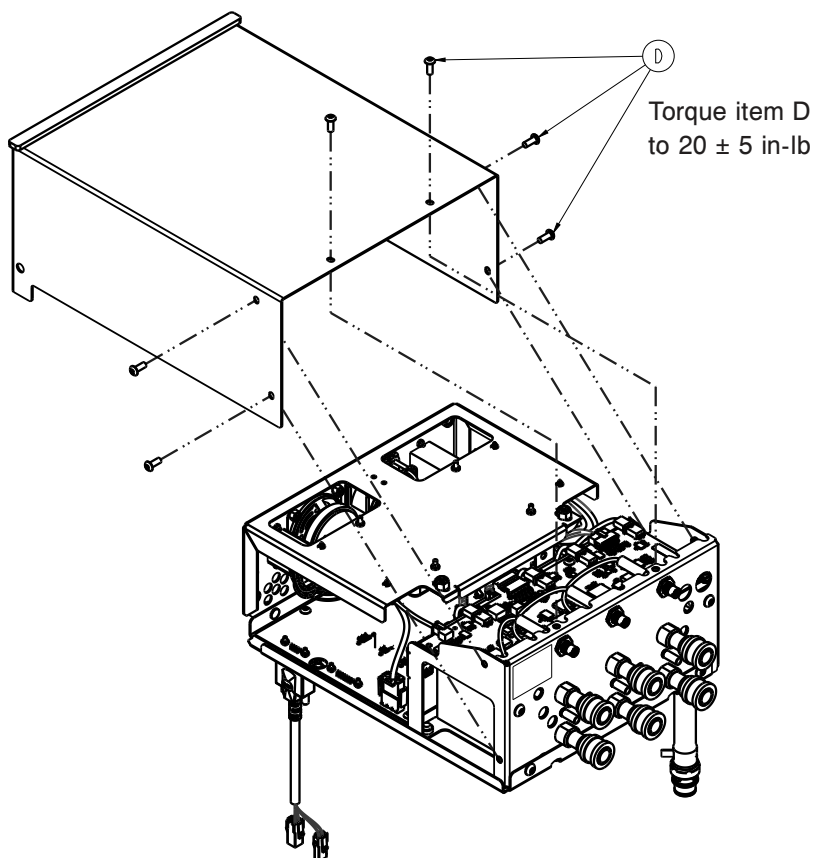

Figure 33: Control box cover
5. Using a T25 torx, remove the 6 screws (D) that secure the control box cover (Figure 33 on page 47).